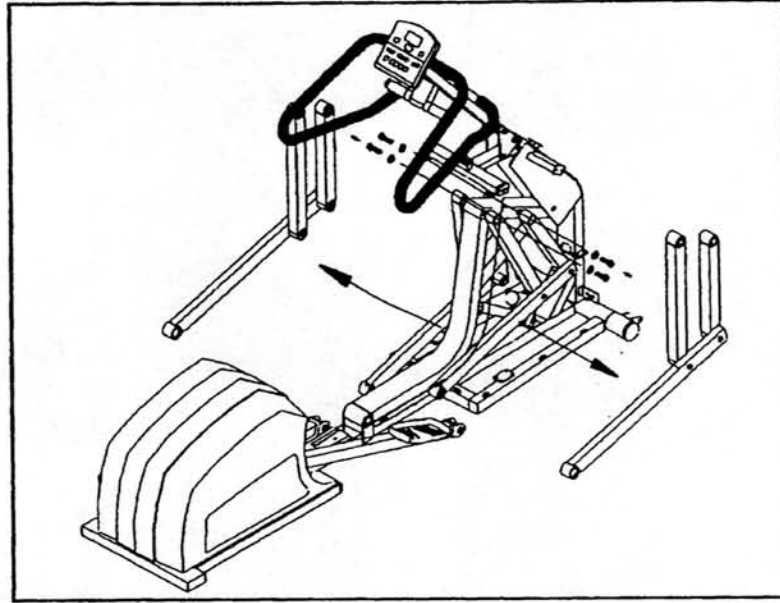

Fig.21-3
4. Remove all the screws and washers from the ELEVATION FRAME and then take all the linkages off (see fig.21-3).